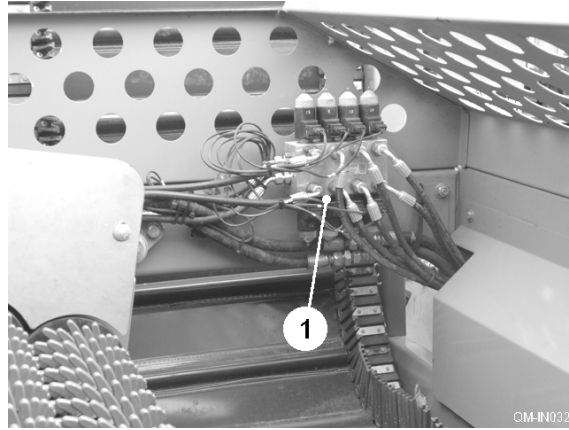

Fig. 26
The windrow slave valve (item 1, fig. 26) is powered from the auxiliary valve bank. The slave valve operates the conveyor side shift rams, fold rams and end angle rams.